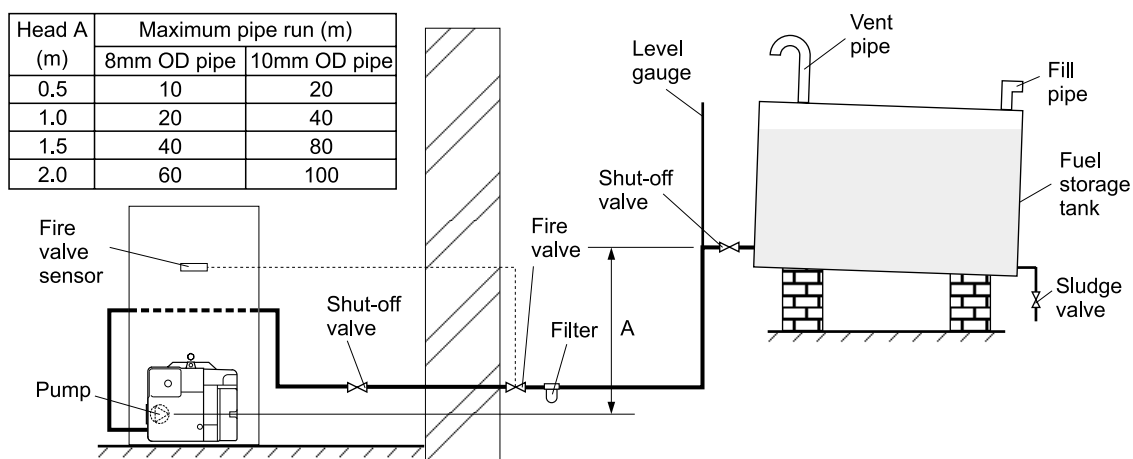

Fig. 3 - Single pipe system
- 5 A flexible fuel line, adaptor and $\frac{1}{4}$ " BSP isolation valve are supplied loose with the boiler for the final connection to the burner. If a two pipe system or Tiger Loop system is used, an additional flexible fuel line (600 mm) and $\frac{3}{8}$ " to $\frac{1}{4}$ " BSP male adaptor are available from Grant Engineering (UK) Limited (Part No. RBS104).
3.4.3 Single pipe system - (See Fig. 3)